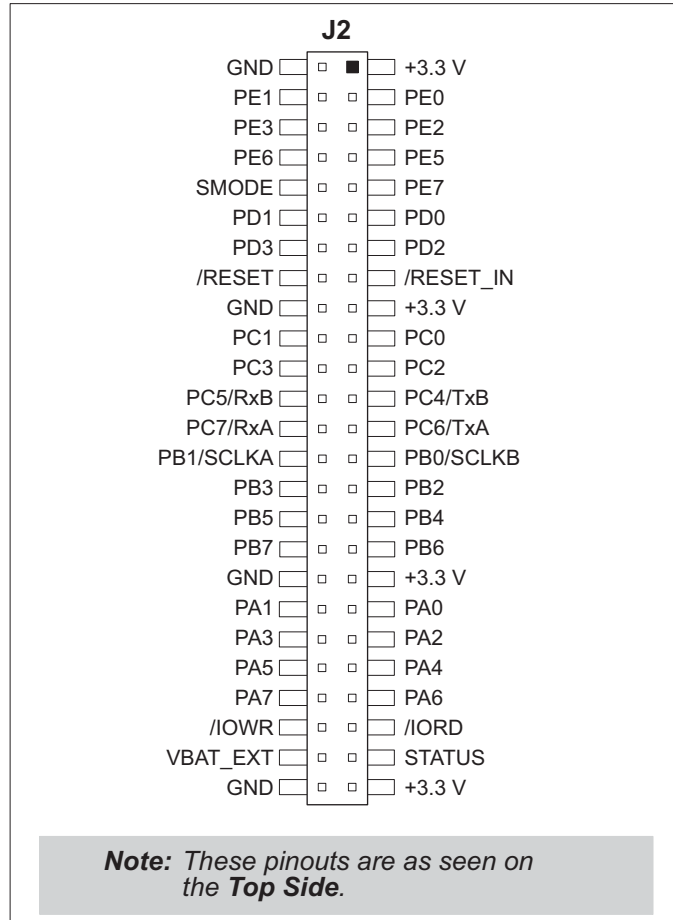

Figure 1-4. MiniCore Boards Pinout
- **Module Extension Headers**—The complete pin set of the RCM5600W module is duplicated below header J2. Developers can solder wires directly into the appropriate holes, or, for more flexible development, a 2 × 25 header strip with a 0.1" pitch can be soldered into place. See Figure 1-4 for the header pinouts.
The Digital I/O accessory board provides the user with RCM5600W connection points brought out conveniently to labeled points below header J2. The pinouts for header socket J2 are shown in Figure 1-4.